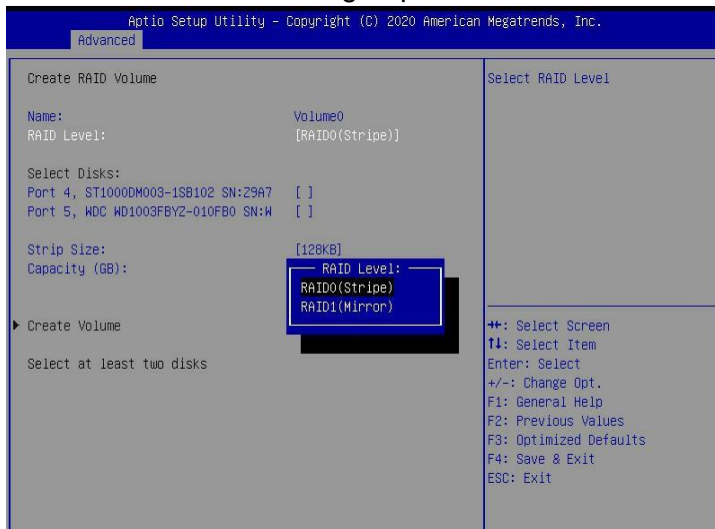

Figure 6-6
a) RAID Level: You can select the level of group raid, as shown in Figure 6-6
✧ Figure 6-6 Select the level of group RAID